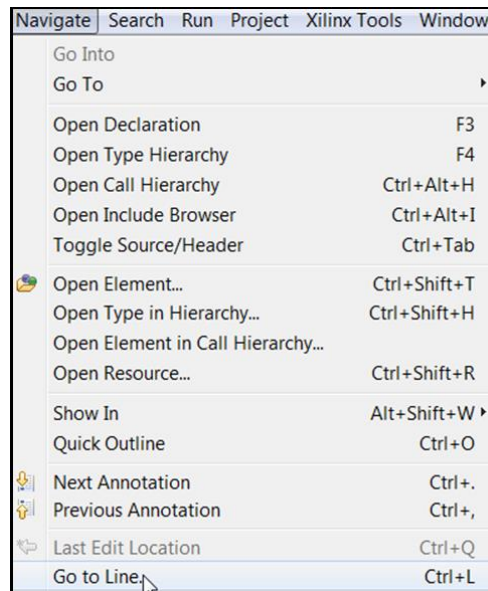

Figure 46: Go to Line
1. Select **Navigate > Go To Line** (FIGURE 46).